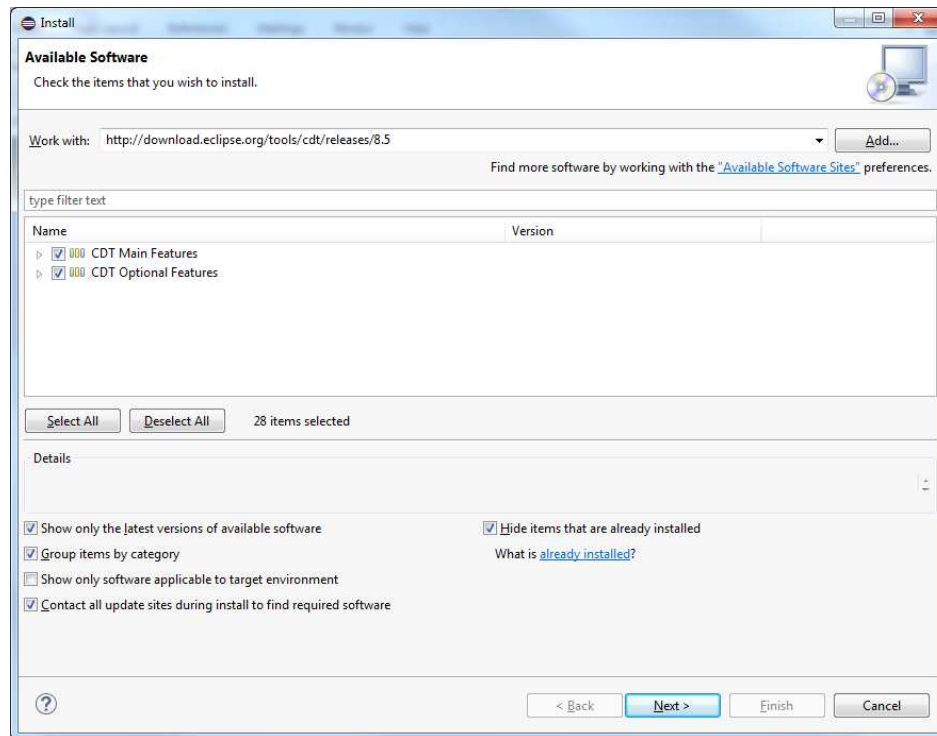

Figure 2. Installing CDT
8. Select both 'CDT Main Features' and 'CDT Optional Features' to install (see Figure 2).